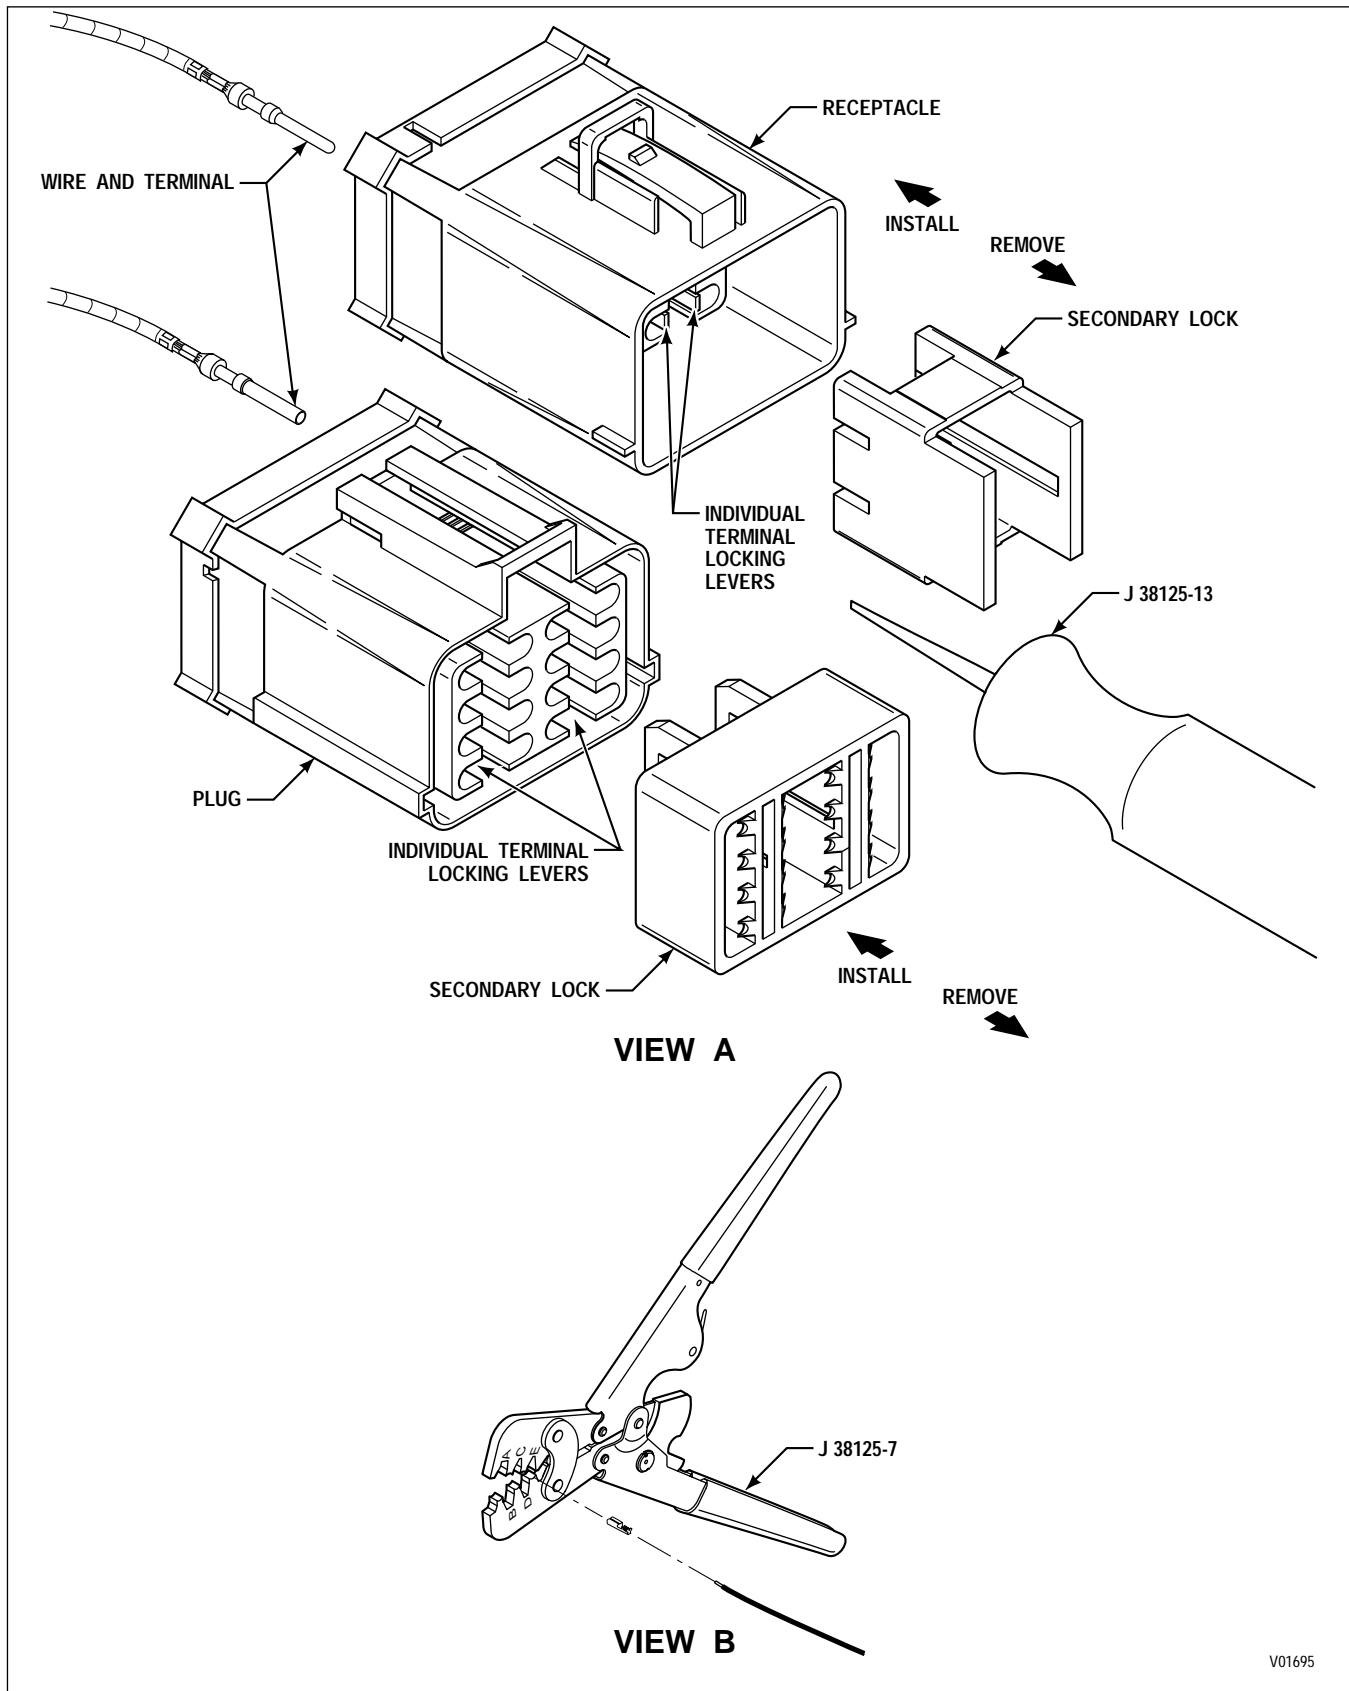

Figure E-14. EPC Connectors (Ford 16-Way Bulkhead)
B. Terminal Removal (refer to Figure E-14, View A)
2. Place the core crimp portion of the terminal on the bed of the designated crimping anvil and squeeze crimper enough to hold terminal from dropping (Figure E-14, View B).